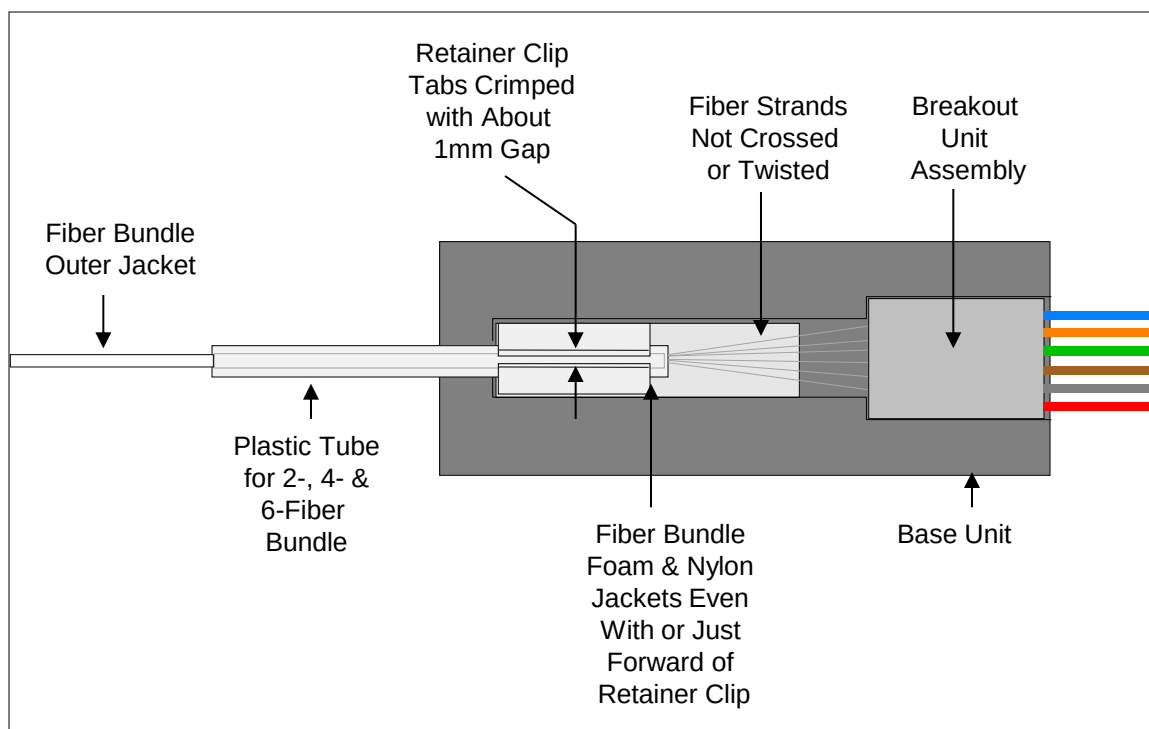

Figure 6
7.6 Carefully place Breakout Unit Assembly into Base Unit cavity. **See Fig. 6.**